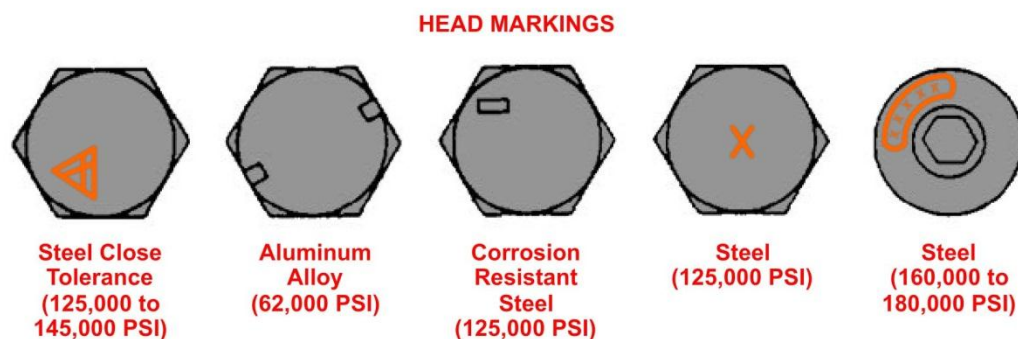

Figure 2-19 — Bolt head markings.
Air Force/Navy (AN) bolts come in three head styles—hex head, clevis, and eyebolt. National Aeronautic Standards (NAS) bolts are available in countersunk, internal wrenching, and hex head styles. Military Standards (MS) bolts come in internal wrenching and hex head styles. Head markings indicate the material of which standard bolts are made. Head markings may indicate if the bolt is classified as a close-tolerance bolt. See *Figure 2-19*. Additional information, such as bolt diameter, bolt length, and grip length, may be obtained from the bolt part number. Refer to the *Structural Hardware Manual*, NAVAIR 01-1A-8, for complete identification of threaded fasteners.